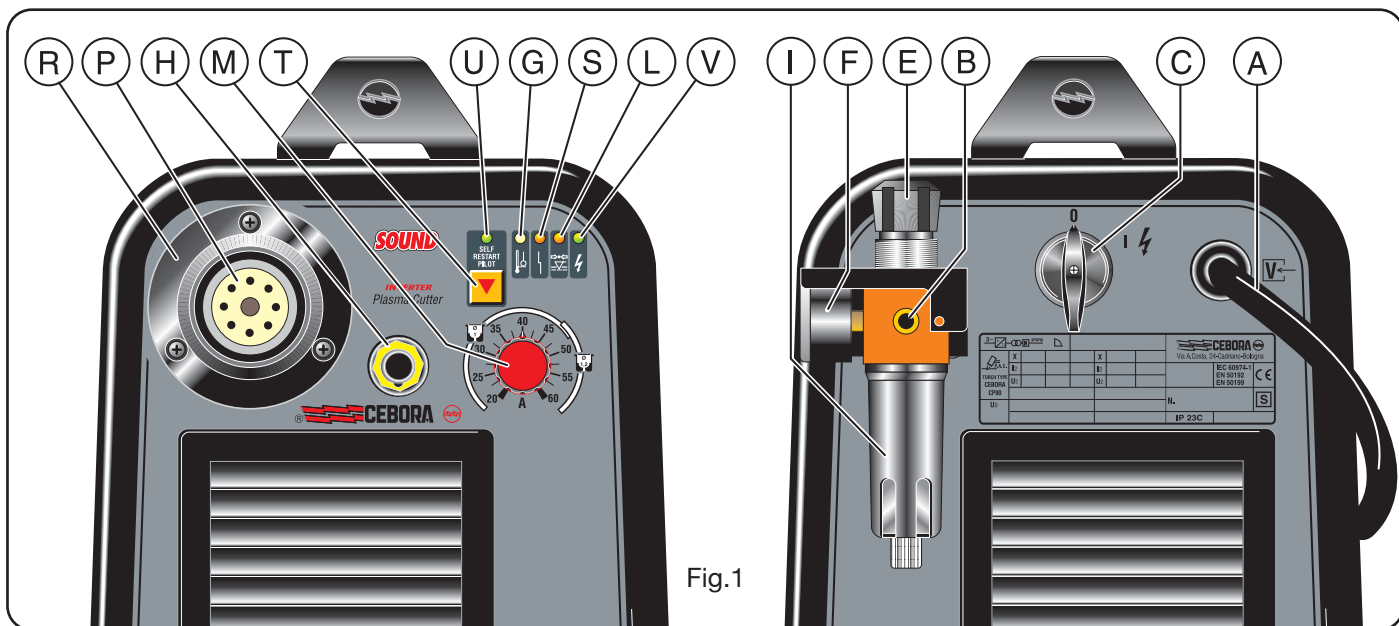

Fig.1
2.1 TORCH ASSEMBLY (Fig. 1)
1) To avoid overloads. It is evidenced by the **G** led continuously on (see fig.1).
Located on the torch inlet to prevent low air pressure. The LED **L** lights when tripped (see fig.1).